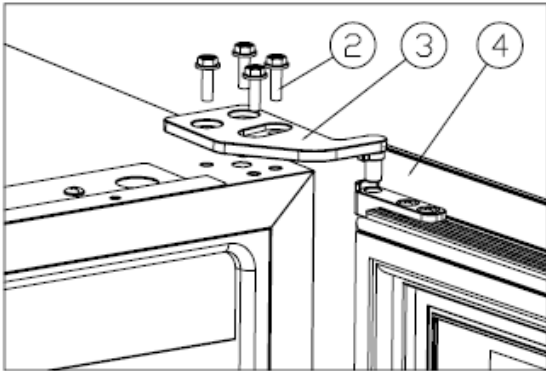

Figure 1
- ✧ Unscrew the M5*16 screws ②, dismantle the right upper hinge ③, and remove the door. [Figure 1].